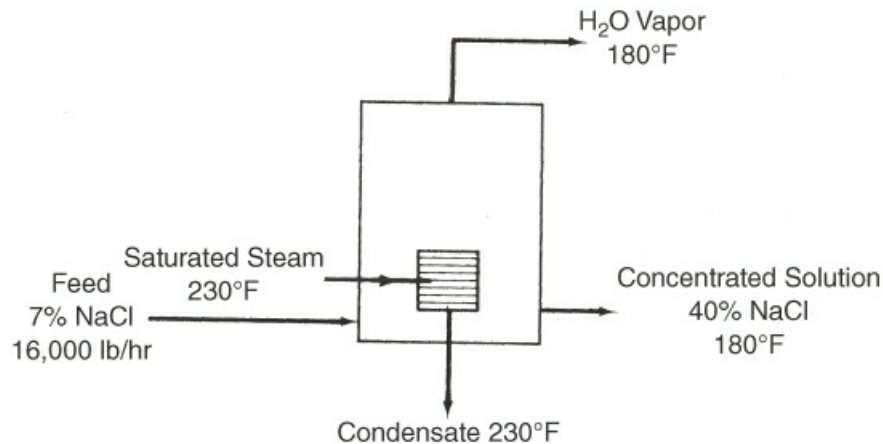

Figure P14.6
14.6 A feed stream of 16,000 lb/hr of 7% by weight NaCl solution is concentrated to a 40% by weight solution in an evaporator. The feed enters the evaporator, where it is heated to 180°F. The water vapor from the solution and the concentrated solution leave at 180°F. Steam at the rate of 15,000 lb/hr enters at 230°F and leaves as condensate at 230°F. See Figure P14.6.